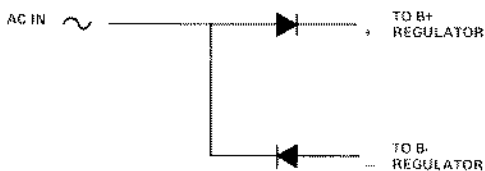

FIGURE 6
(3) Or, there is an alternative method that can be used to obtain full-wave rectification, rectifying both sides of the AC sine-wave (see Figure 6) with individual (a pair) of half-wave rectifiers. Both the B+ and B- sides must be individually regulated, and separate B+ and B- lines must be run to the amplifier stages.